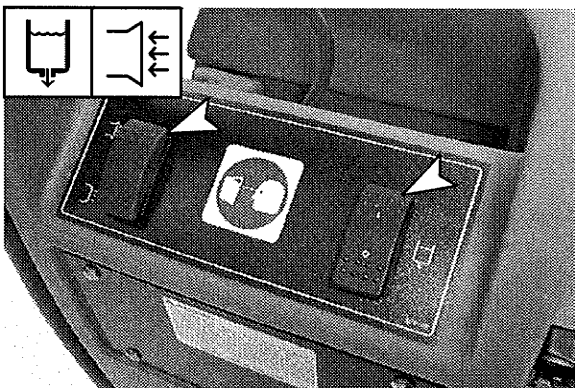

FIG. 13
5. Activate pump switch. Press vacuum/blower switch towards vacuum symbol if using gulper tool (Figure 13).